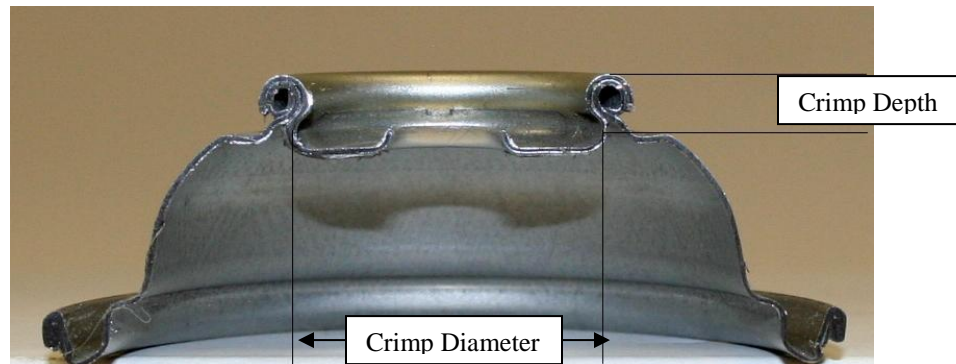

Figure 11 – Crimp Dimensions
- a. Crimp Diameter: The distance between the impressions left by two collet sections 180 degrees apart (see Figure 11).
- b. Crimp Depth: The distance from the top of the cup to the center of the collet section impression (see Figure 11).